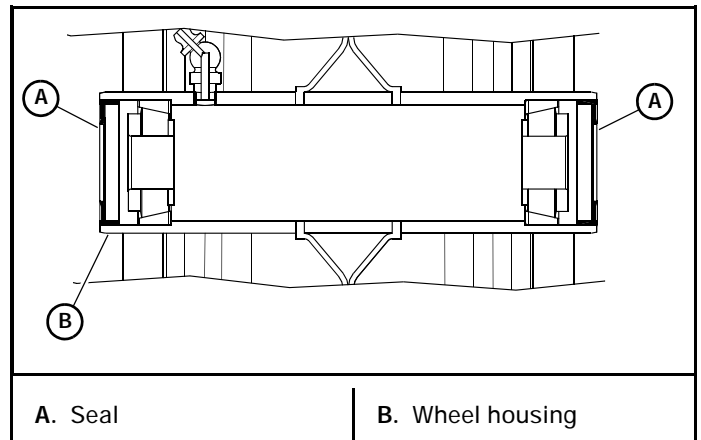

Figure 4-43
3. Insert the new tapered roller bearings into the outer bearing race. Figure 4-43
4. Insert the new seals into the wheel housing. Make sure that the flat side of the seal is flush with the outside edge of the wheel housing. Figure 4-43